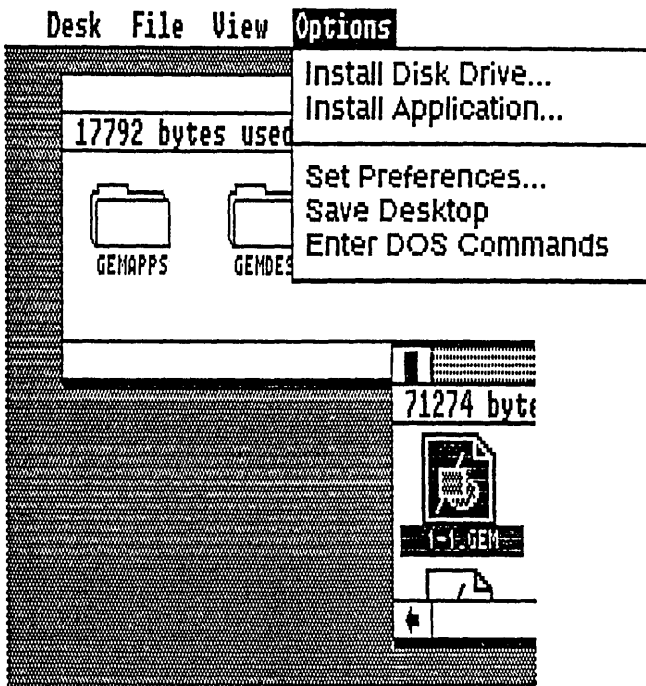

Fig. 1-11. When the pointer makes contact with the Menu Bar, a drop-down menu is displayed.
- ☐ When the pointer makes contact with any of the menu words, a menu is displayed (Fig. 1-11).